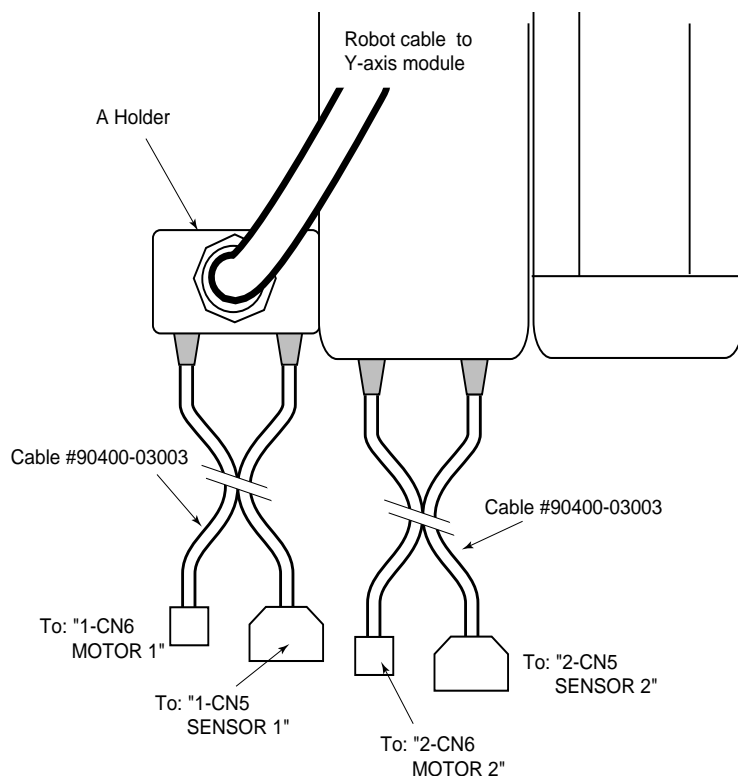

Figure 4-11. Connecting to an EXA or EXC Controller
- a. Connect the two barrel ends of the cable to the X-axis module as shown in Figure 4-11. These connectors have different pin sizes and cannot be installed incorrectly. The other ends connect to the controller connections marked “1-CN6 MOTOR 1” and “1-CN5 SENSOR 1”.
- c. Attach the A holder end of the robot cable to the side of the X-axis module as shown in Figure 4-11 (refer to Section 4.3 for holder mounting).
- e. Connect the two barrel ends of the cable to the Y-axis module as shown in Figure 4-11. These connectors have different pin sizes and cannot be installed incorrectly. The other ends connect to the controller connections marked “2-CN6 MOTOR 2” and “2-CN5 SENSOR 2”.